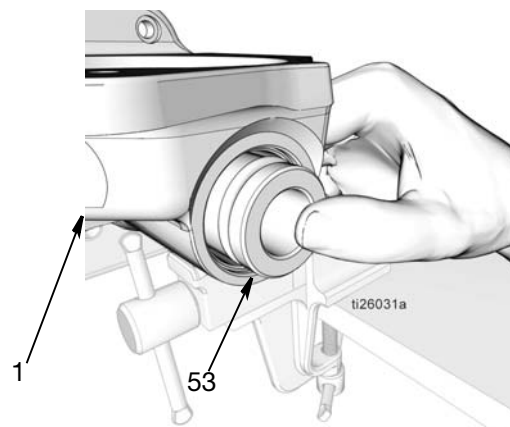

FIG. 42
- d. Use your thumbs to press the sleeve (53) into the pump base (1). Then using a soft rod, press the sleeve all the way down as far as possible (FIG. 42).